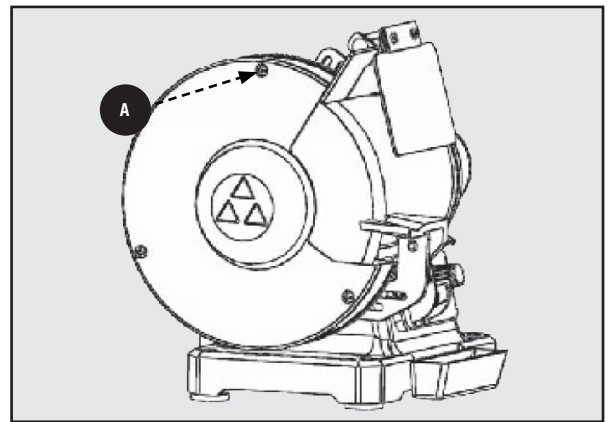

Figure 4
1. Remove the two screws (A) securing the outer face of the wheel guard to the tool frame. You will also need to remove the long carriage bolt that secures the Tool Rest Support by removing the lower large locking knob. See Figure 4.
4. Re-attach and secure the outer face of the wheel guard to the tool frame using the screws (A) by reversing Step 1. See Figure 4.
For steps 1-4, refer to Figures 4 & 5 on page 11: